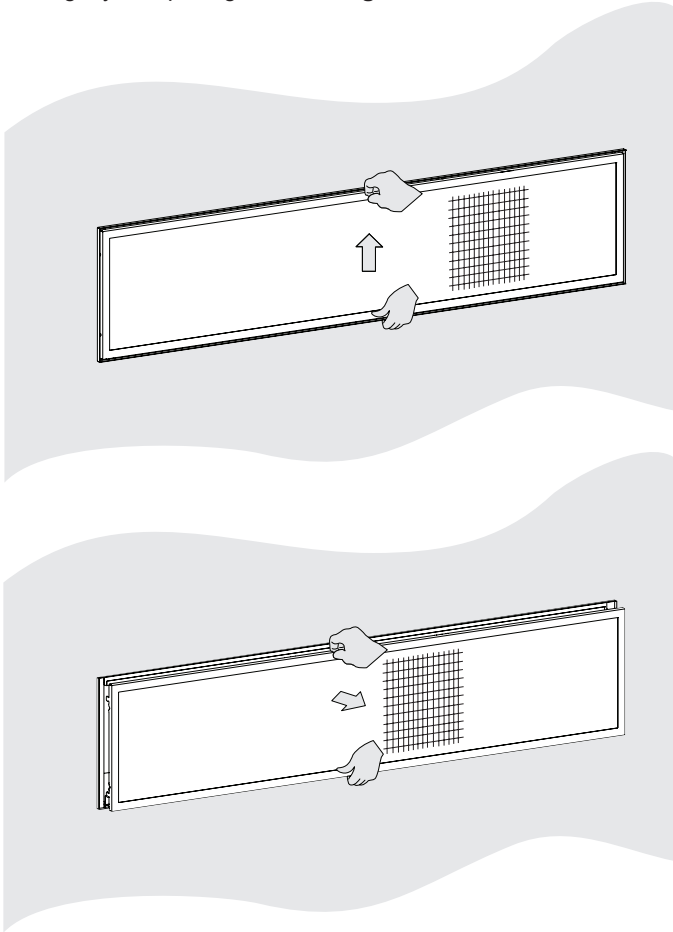

Figure 2
1. Remove barrier screen assembly from fireplace by lifting up slightly and pulling out. **See Figure 2.**